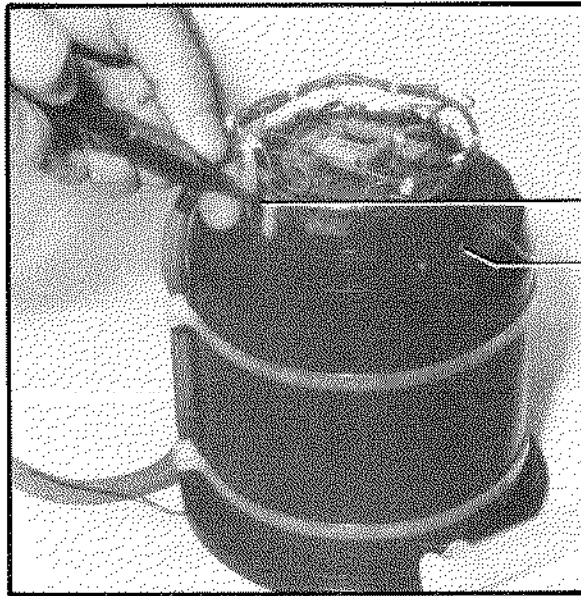

Fig. 3-24:
- Loosen the electrical plug connections of the cable loom from the pump unit and remove them (Fig. 3-24).
Re-install the new or previously removed parts in reverse order. Pay attention to correct position of the positioning pin (Fig. 3-24)!